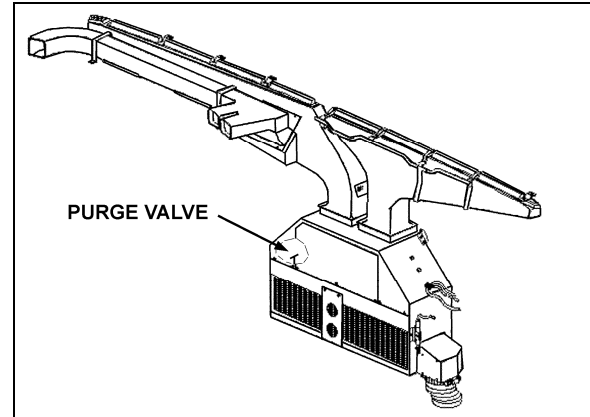

FIGURE 42: DRIVER'S UNIT AIR MIXING BOX
4. From inside of vehicle, remove the grill and the access panels. Open the purge valve located inside the driver's unit (figure 42) to ensure an efficient draining.
Whenever the heating system has been drained and refilled, or the system has run low on coolant and coolant has been added, it is necessary to bleed air from heating system. Locate the purge valve illustrated in figure 42 & 43, and open them momentarily until no air escapes from the lines.